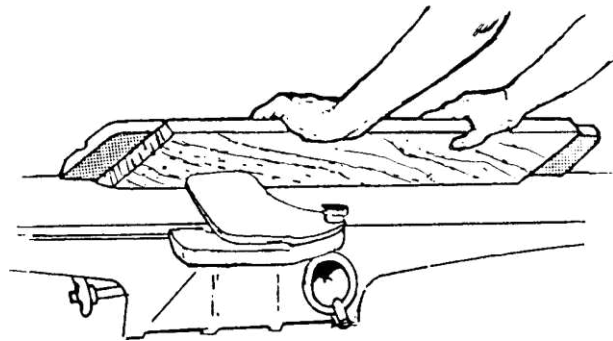

FIGURE 30a
**CAUTION:** Although fence may be tilted in or out for bevel cut, Sunhill Machinery recommends for safety reasons the fence be tilted in, if possible, making a cradled cut (Fig. 30a).